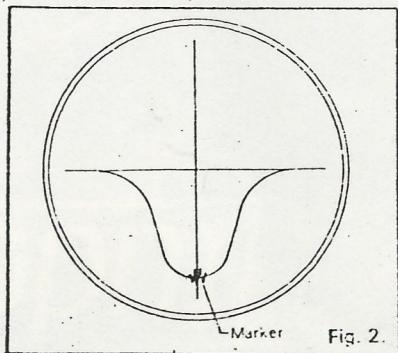

Fig. 2.
A. Adjustment of AM (MW) IF circuit:
- As the sweep generator output is raised, the waveform given in Fig. 2 will appear. Adjust each IFT (IFT. 1~3) to obtain the highest peak and fine shape in the waveform.